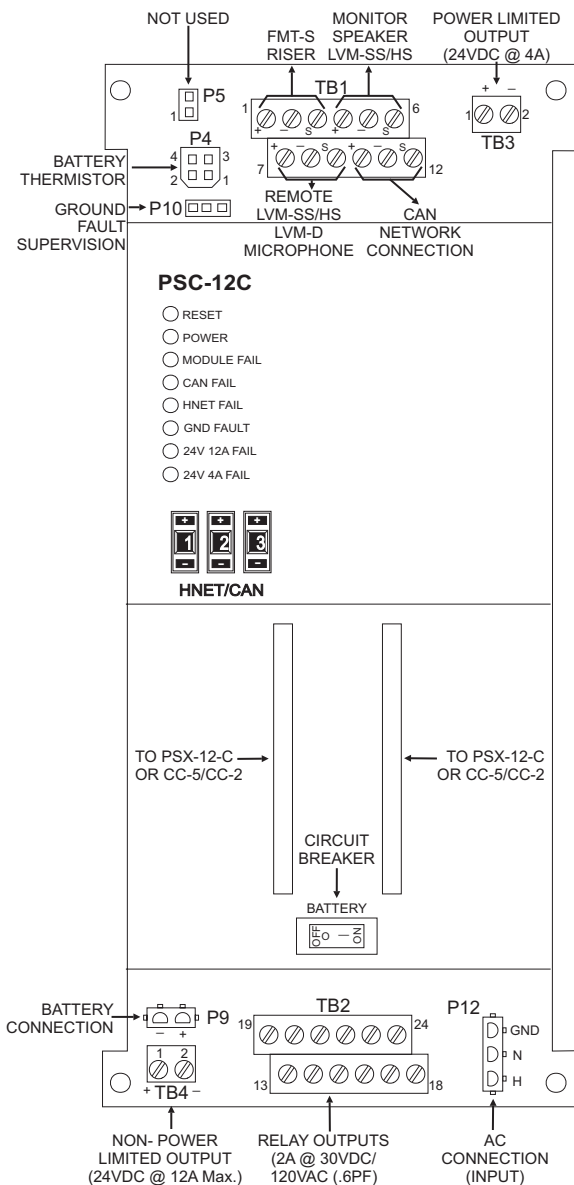

Figure 2
The PSC-12C has one reset switch, seven LEDs, one address switch, one circuit breaker, four terminal blocks, four terminal connections and two 60 pin flat ribbon connections as shown in Figure 2. The ribbon cable connectors are used to connect the PSC-12C with the PSX-12C or a Card Cage (CC-2/CC-5).
The terminal blocks of the PSC-12C are defined as follows (See Figures 2, 3 and 4):
This output is normally connected to the modules and cards located on the door of the enclosure or to remote CAN network modules. This output is power limited to NFPA 70 per 760. All wiring must be in accordance with local building codes. (See Figure 2.)
This output is normally connected to the inputs of the CC-5. This output must remain within the enclosure. All wiring must be in accordance with local building codes. (See Figure2.)
- **Network Address Switch:** Set the three-digit CAN network address for the PSC-12C using the three-position switch located near the bottom of the front panel. (Refer to Figure 2 for the location of the switch.) The address for the PSC-12C must be the same as the address selected for it in the Zeus Programming Tool. To increment each digit of the address, press the "+" button above the desired digit; to decrement each digit, press the "-" button below the desired digit. The range of allowable addresses is from 001 to 251 (leading zeros must be used).